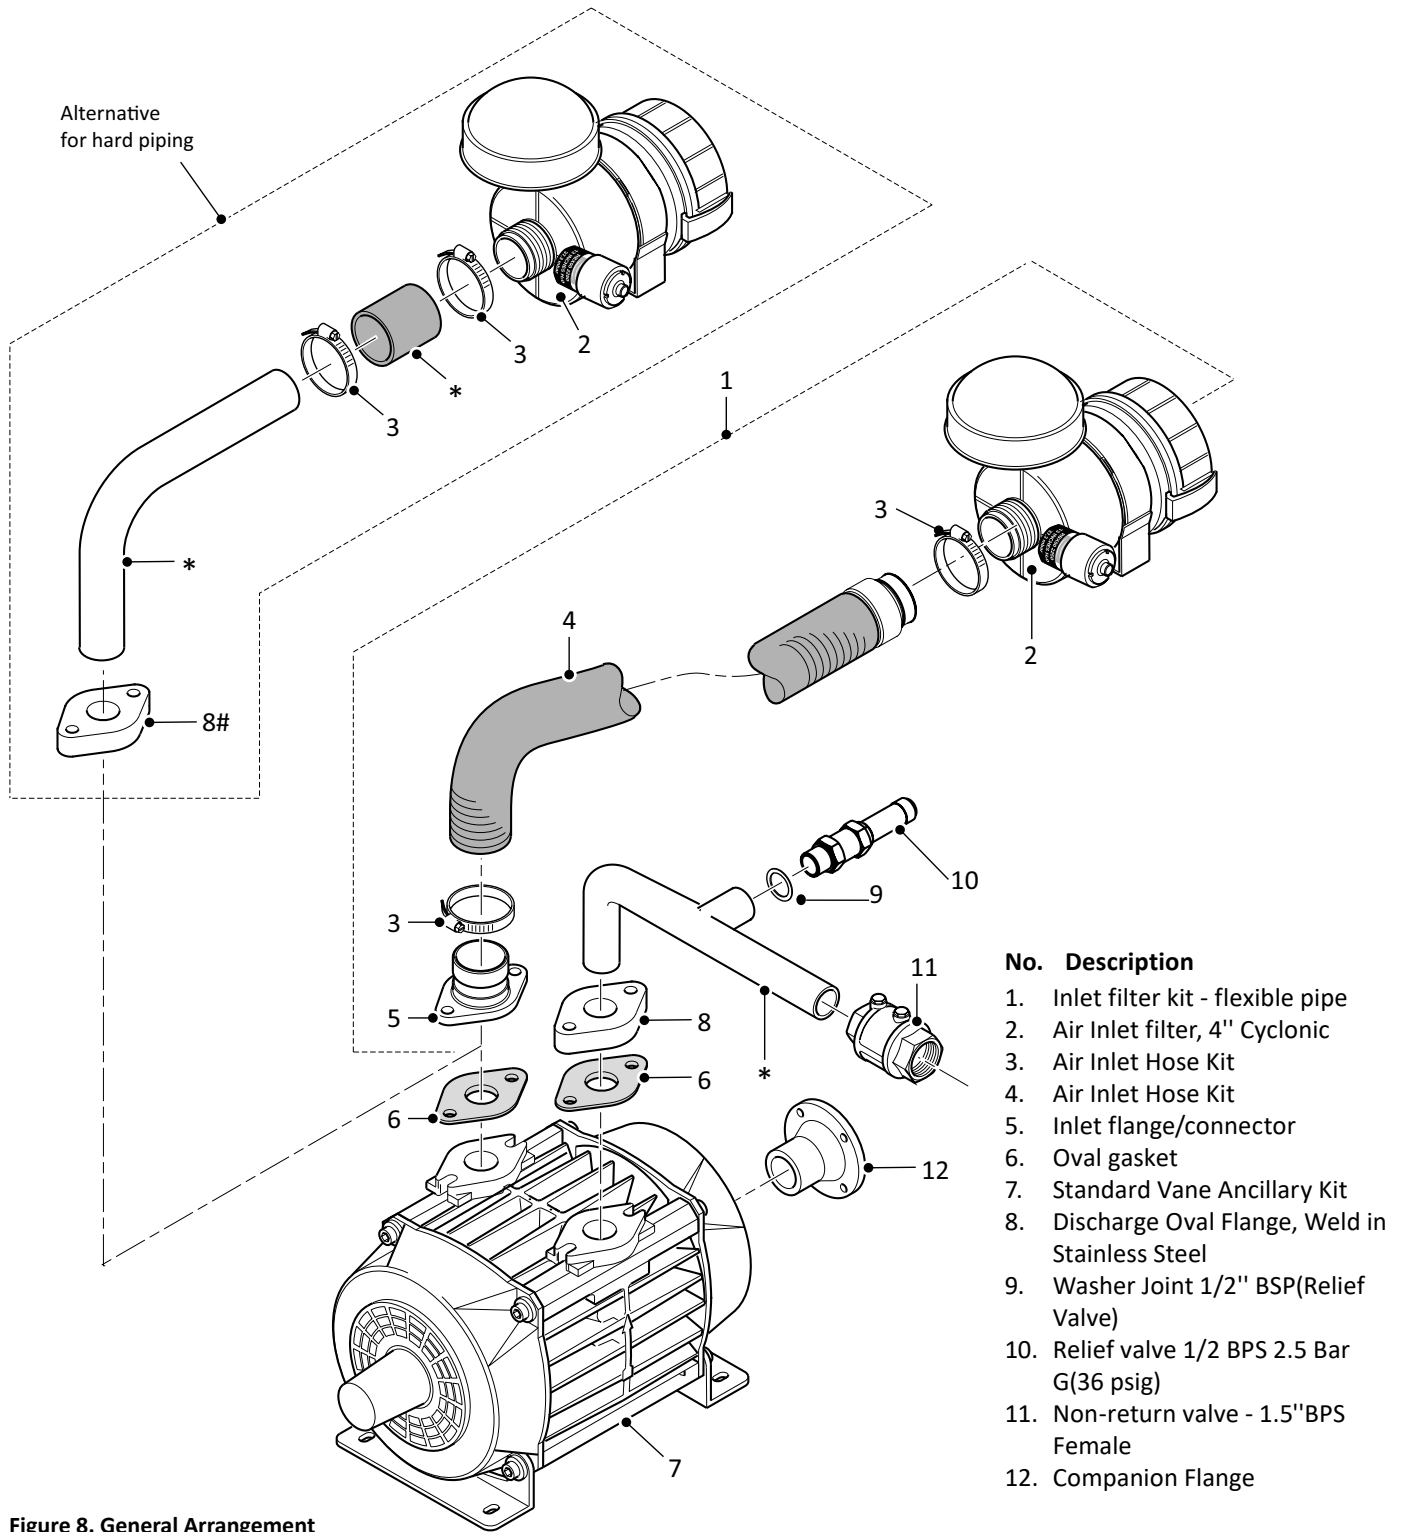

Figure 8. General Arrangement
Air Inlet Filter and Flexible Induction Kit. (Fig 8, items 1)
Relief Valve. (Fig 8, Item 10)
Check (non-return) Valve (Fig 8, Item 11)